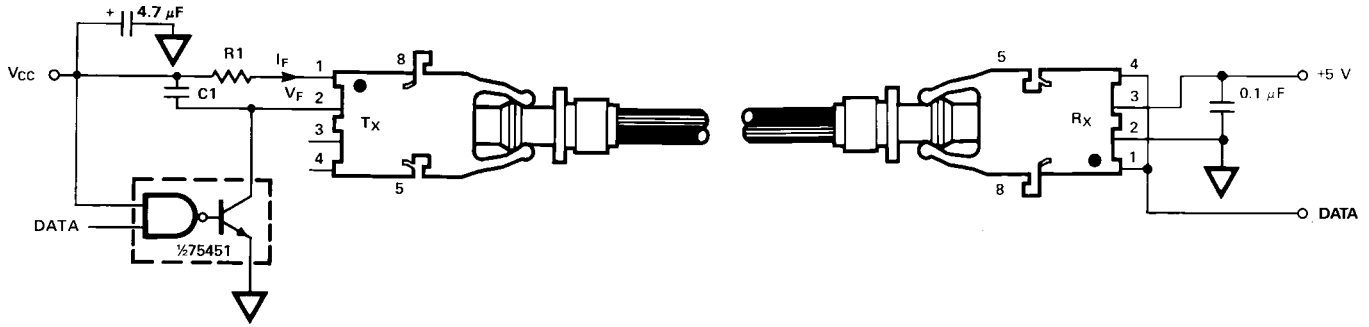

Figure 11. Required 1 MbD interface circuit
The HFBR-25X2Z receiver can not be overdriven when using the required interface circuit shown in Figure 11.
- The LED drive circuit of Figure 11 is required for 1 MBd operation of the HFBR-25X2Z/25X4Z.